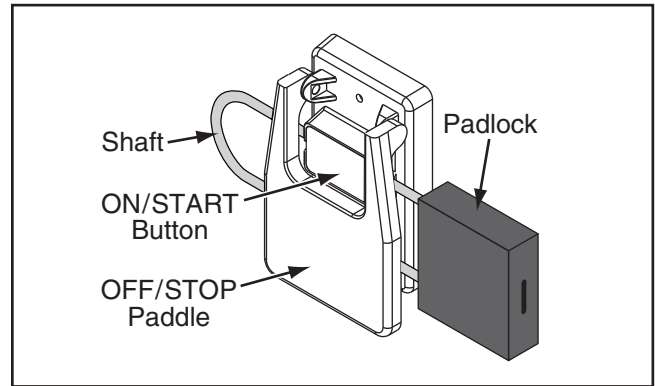

Figure 28. Padlock inserted through ON button.
7. Insert the padlock shaft through the ON button, as shown in **Figure 28**.